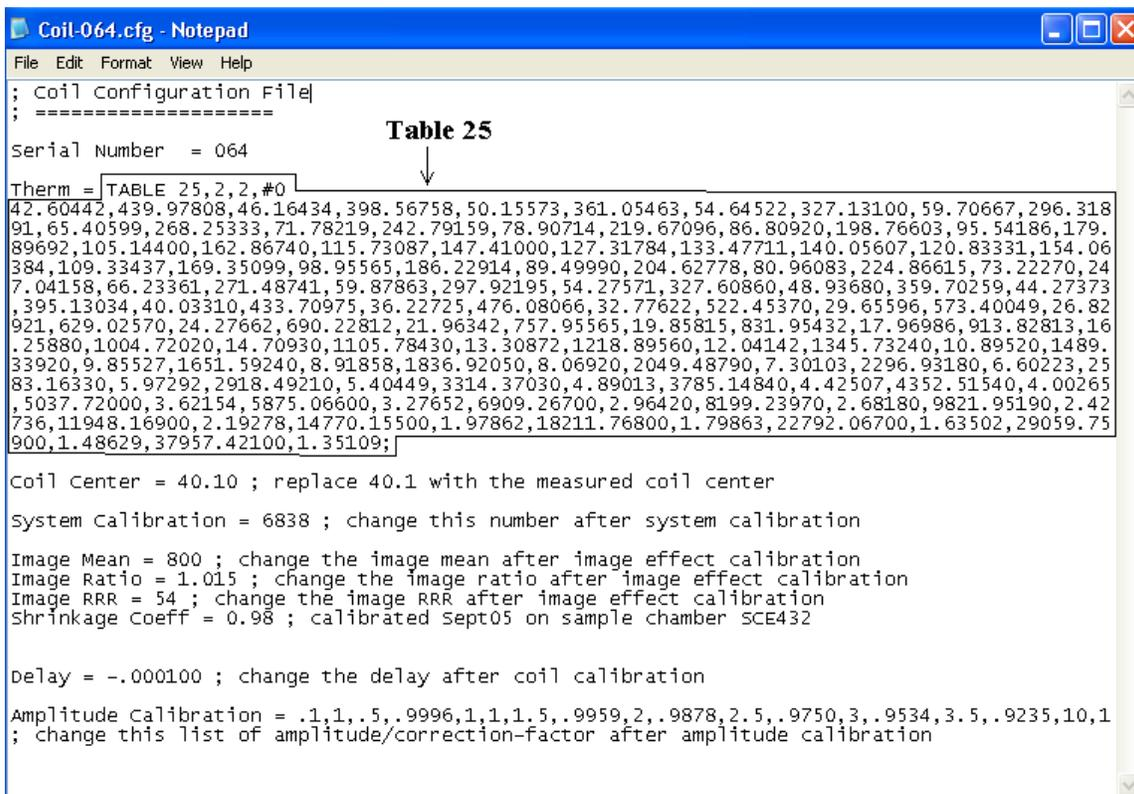

Figure 6: VSM coil configuration file
1. Open the Coil-XXX.cfg file located under \\QdPpms\Vsm\Calibration. Copy Table 25 from the coil configuration file as indicated in Figure 6 and paste into a new Notepad page.